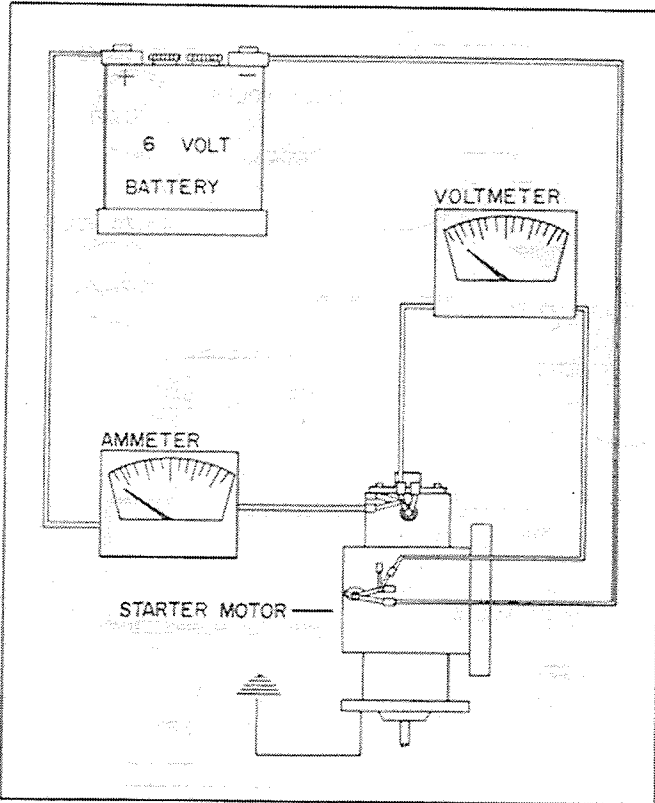

FIGURE 13
1. Connect starter with an ammeter in series to a 12-volt source. Figure 13. Use a tachometer or r.p.m. indicator to indicate armature speed.